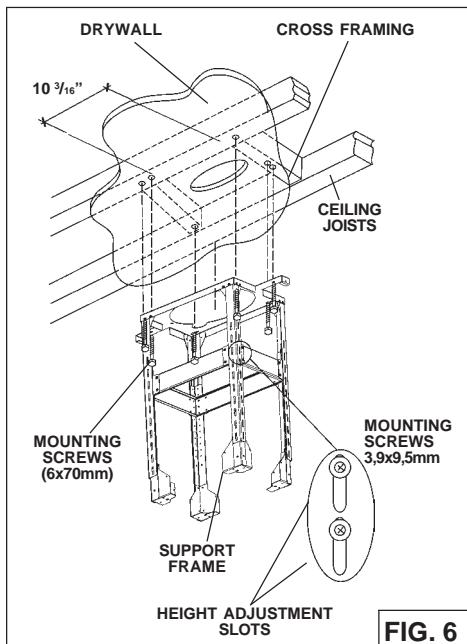

FIG. 6
- Adjust the overall height using the chart below of the support frame. Loosen and re-tighten the 4 screws in the **height adjustment slots** as necessary. Insert 12 screws (3.9x9.5mm) located in the Hardware Package (Fig.6) make sure this a 4" min. overlap between the upper and lower support legs.
- Secure the support frame to joists and cross framing with six (6) screws provided (6x70mm). Make sure screws are driven into center of joists and framing for maximum strength.